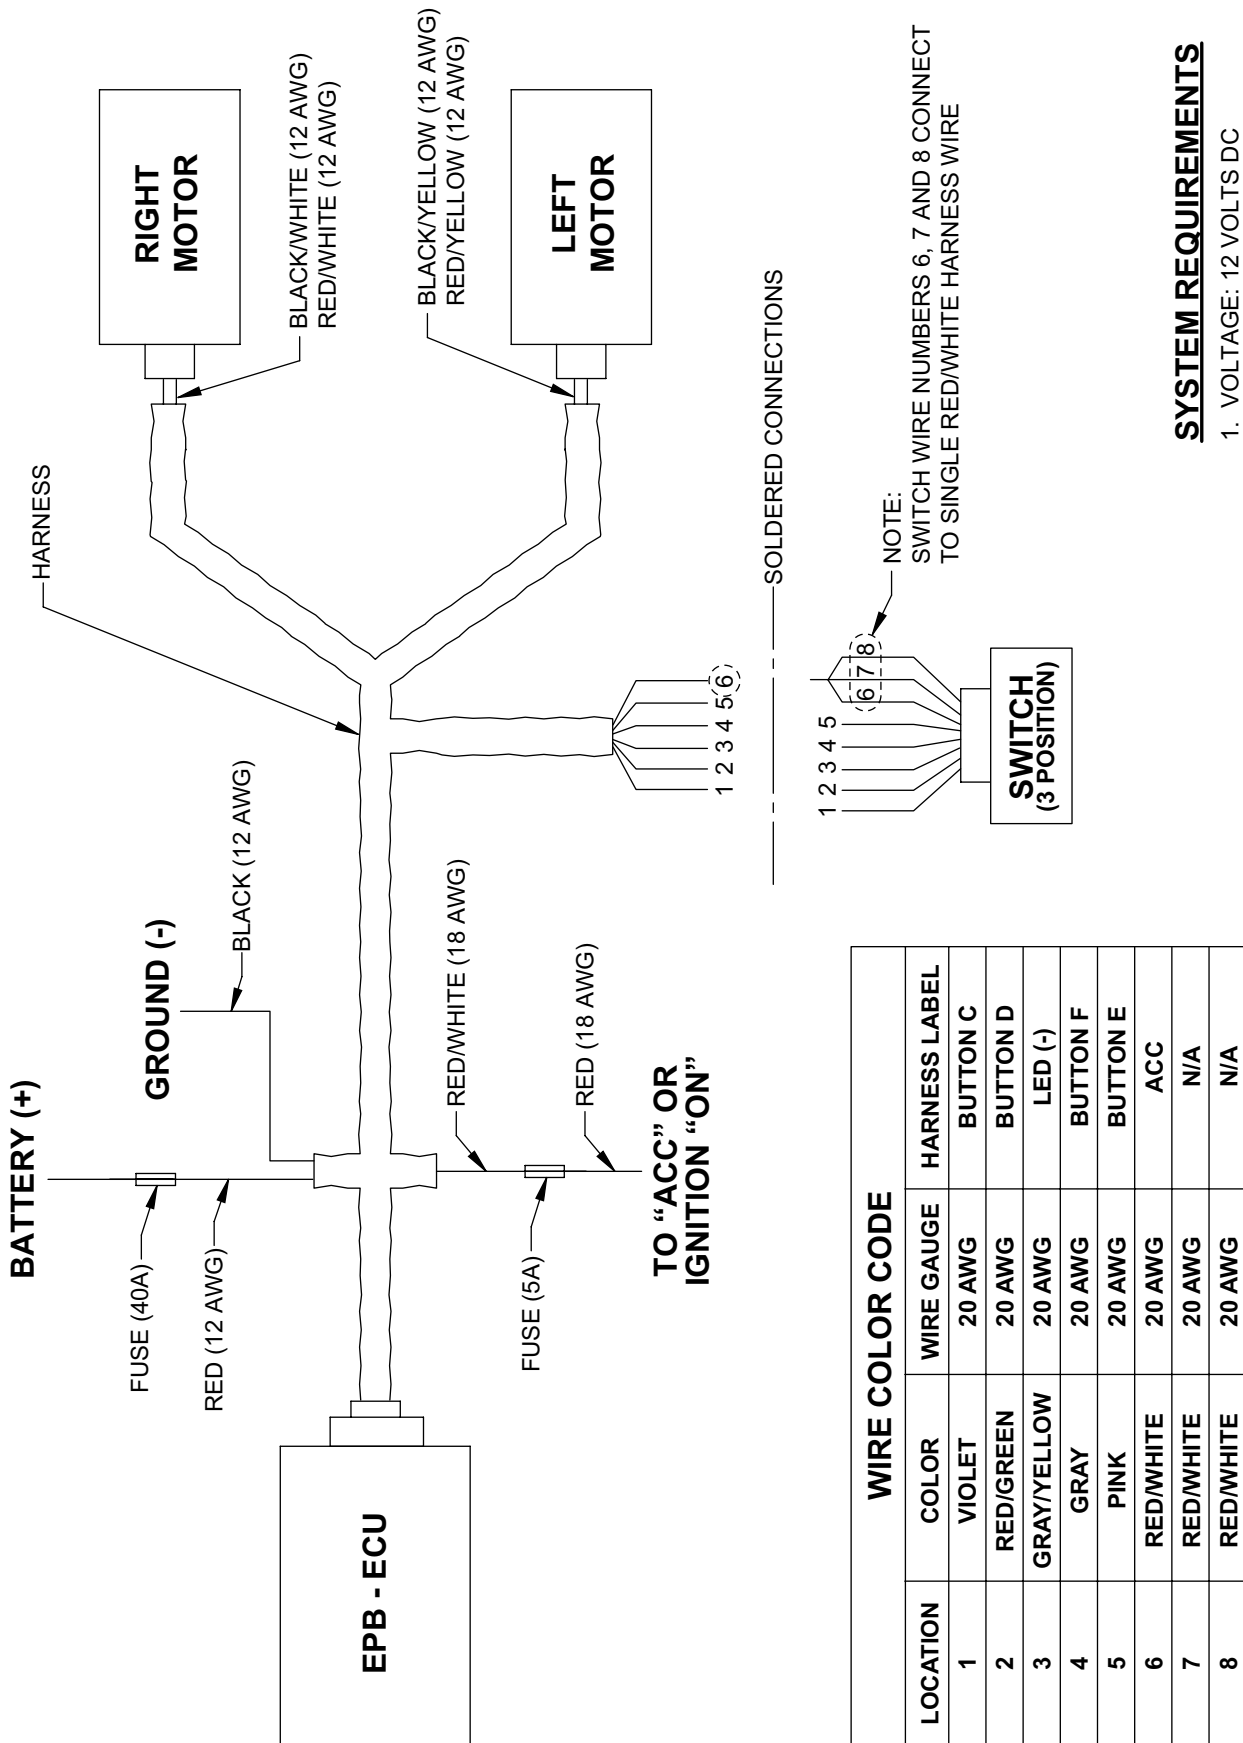

Figure 4. EPB Wiring Diagram
- **EPB WIRING HARNESS** - All wiring harness leads are labeled – refer to wiring diagram, Figure 4. Carefully route harness cables/wires to prevent contact with moving or rotating components and away from heat sources and pinch points. **NOTE: Wilwood EPB harness is designed for use in many different vehicle applications and it is the installer's responsibility to properly route cables/wires and ensure adequate clearance and retention for EPB components.**
Wiring installation - Refer to wiring diagram. Figure 4